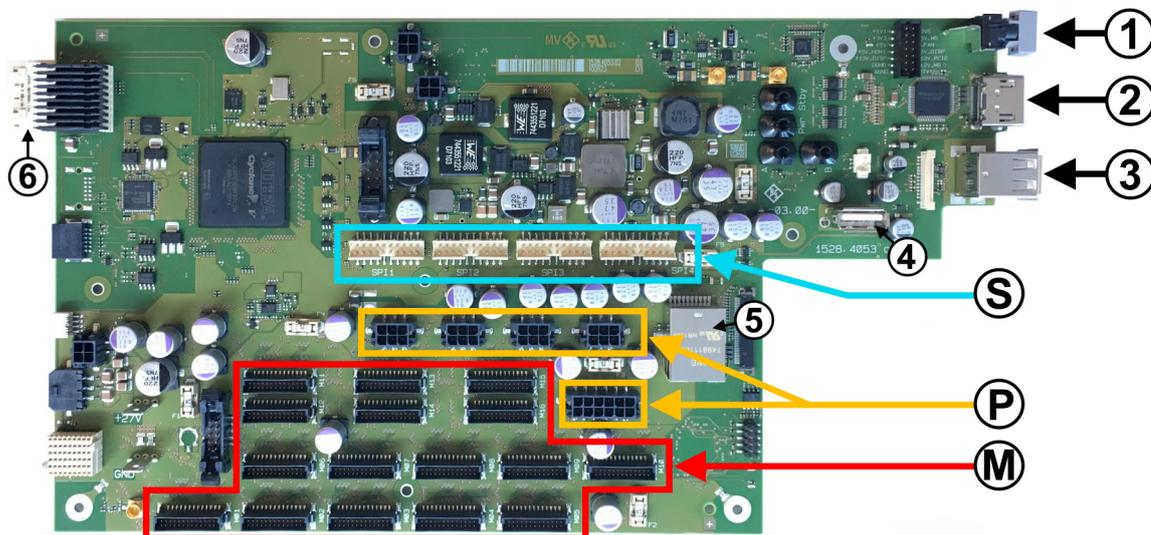

Figure B-1: Interfaces and bus connectors on R&S OSP motherboard
The R&S OSP motherboard has the following external interface connectors (labeled (2) and (3) in Figure B-1) and internal interface connectors (4) to (6), (S), (P) and (M):